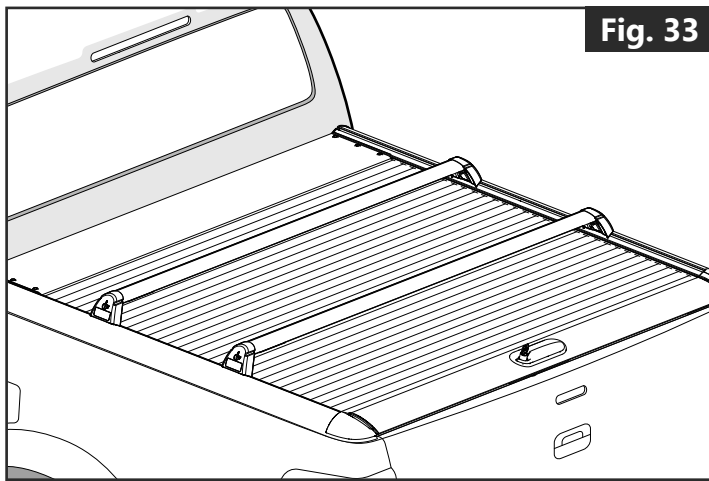

Fig. 33
- Mountain Top Cargo Carrier (**Fig. 33**)